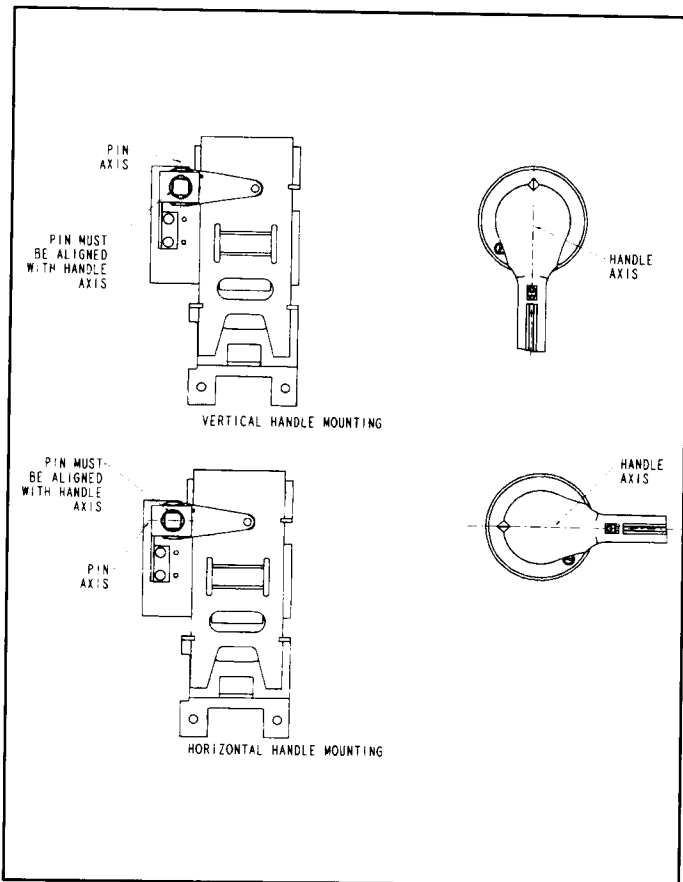

Fig. 3-2 Handle Orientation
4. Place square end of shaft into square opening of die cast pivot link on the operating mechanism to the circuit breaker. Ensure pin is in shaft correctly oriented with respect to anticipated handle position (vertical or horizontal handle placement, see Fig. 3-2).